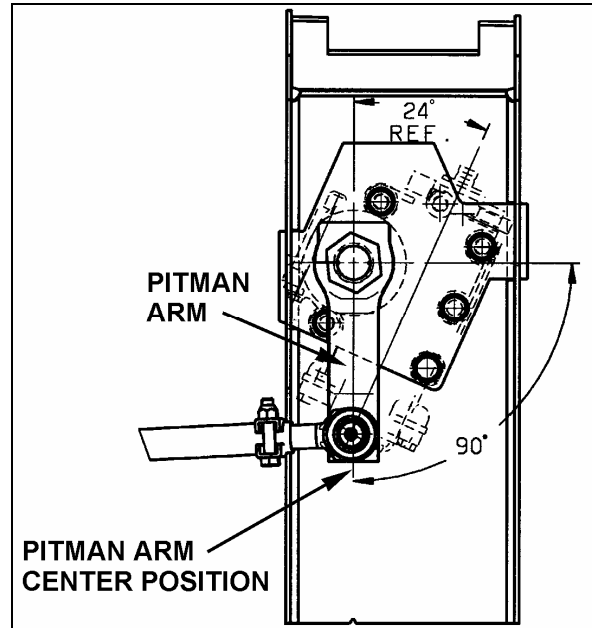

FIGURE 17: PITMAN ARM ALIGNMENT 14057
2. Afterwards, the pitman arm should be adjusted with reference mark aligned or to an angle of 90° in relation with the horizontal axis (Fig. 17).